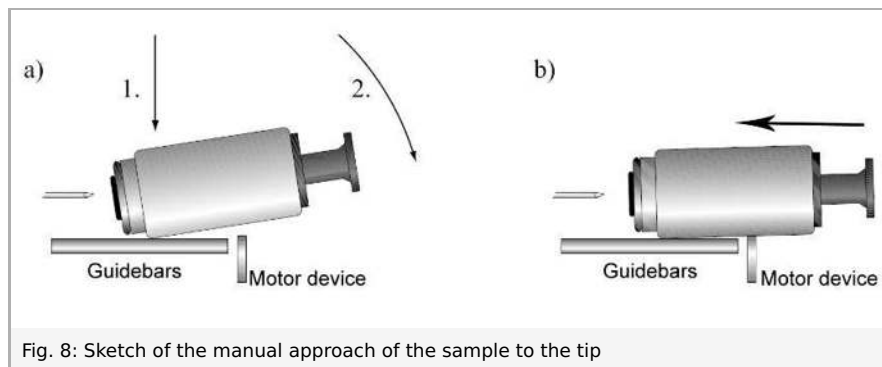

Fig. 8: Sketch of the manual approach of the sample to the tip
- Put the sample holder down on to the sample holder guide bars first Fig.8(a) and release it gently on to the approach motor's support (Be careful: the magnet that holds the sample holder in its place can drag the sample off the sample holder, make sure you bring the sample behind it).